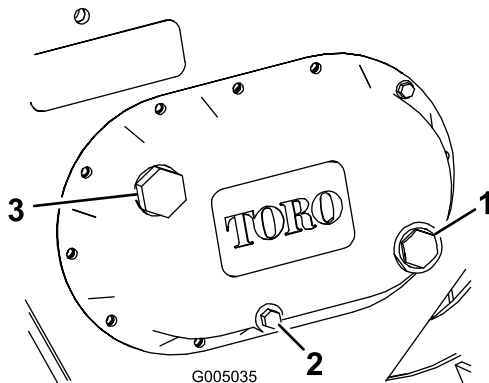

Figure 15
4. Remove the drain plug (Figure 15), allowing the oil to spill out into the container.
6. Remove the fill plug (Figure 15) and fill the case with gear lube until it is level with the red dot in the gauge.
3. Check the clear glass gauge on the side of the gear case (Figure 15).
4. If the gear-lube level is low, remove the fill plug (Figure 15) and fill the case with gear lube until it is level with the red dot in the gauge.